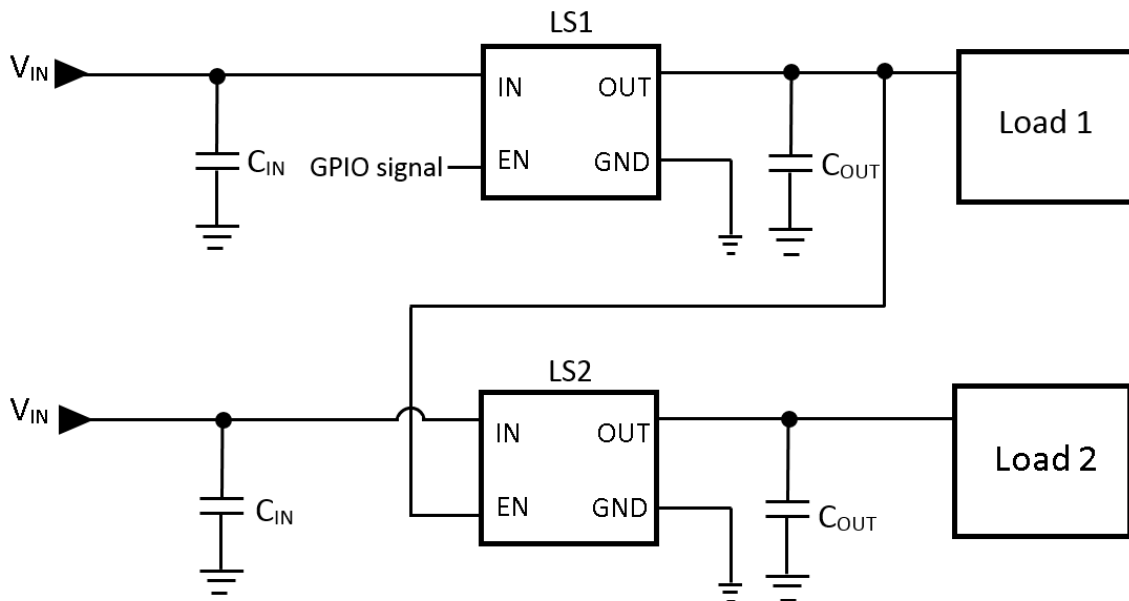

Figure 5: Power sequencing using load switches
As shown in Figure 5, the output of the first load switch can be fed as an input to the enable pin of the second load switch, provided that the input signal is within the range the enable pin is rated for (-0.3V – 6V). There will be a certain propagation delay before the second load is powered, hence the sequential power distribution. Note that this could be replicated with multiple loads. For instance, the output of load switch 2 above could be fed as an input to a third load switch, and so on. If this is not desired, different GPIO signals can be used through a microcontroller to drive the enable pins of the switches as required. The Power Good signal can also be used for power sequencing (see “Power Good” section for details).
Having a power good (PG) signal can be very useful, especially when it comes to power sequencing. As shown in Figure 5, an output signal from one load switch can act as the input to another to achieve sequentially distributed power. Diodes' DML3006LFDS and DML3009LDC devices include a power good output that can be used to indicate when the gate of the MOSFET is driven high and the switch is on, with the on-resistance close to its final value (at the full load condition).